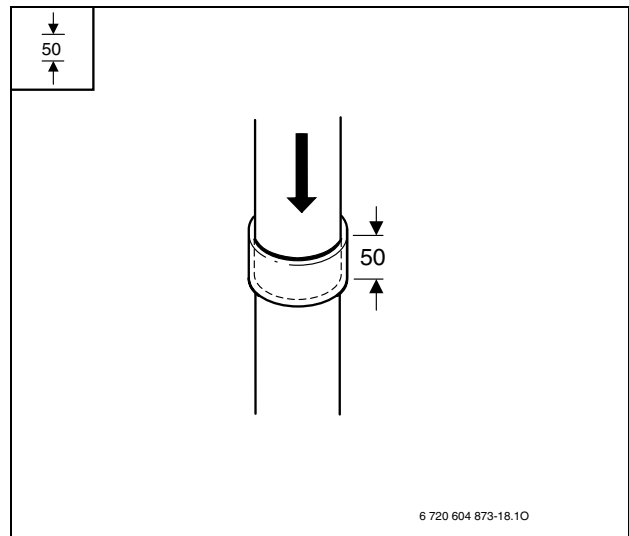

Fig. 2
- ▶ Push flue kit fully home (in this case: 50 mm insertion depth), (Fig. 2).